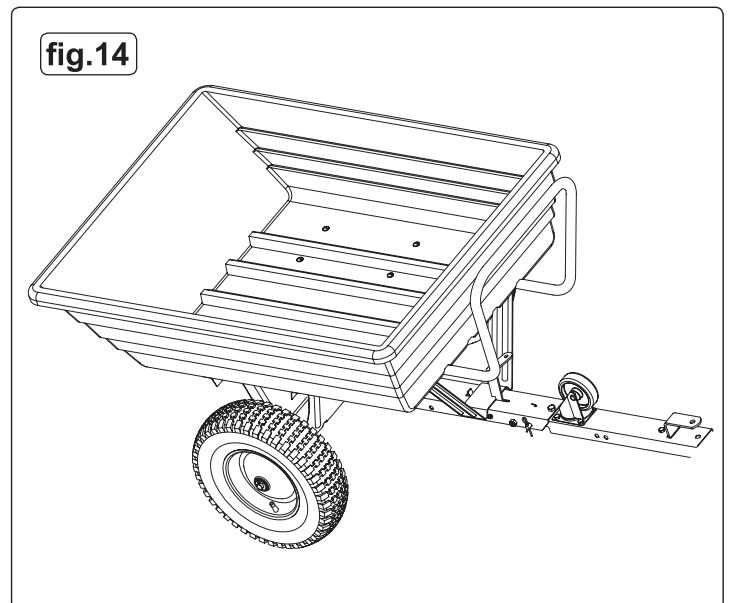

fig.14
3.4.3 To convert the handcart as seen in fig.12 to a trailer as seen in fig.14, tip the cart back to rest on the back edge of the tray to gain access to the front and back tongues. Remove the 'R' clip from the clevis pin at position 'A' and withdraw it. See fig.13. Allow the front tongue to hinge away from the back tongue and move it through 180° until it is pointing forwards as seen in fig.14. Align the holes in the two tongue components and reinsert the clevis pin at position 'B'. Retain the Clevis pin by inserting the 'R' pin through the hole in the end of it.